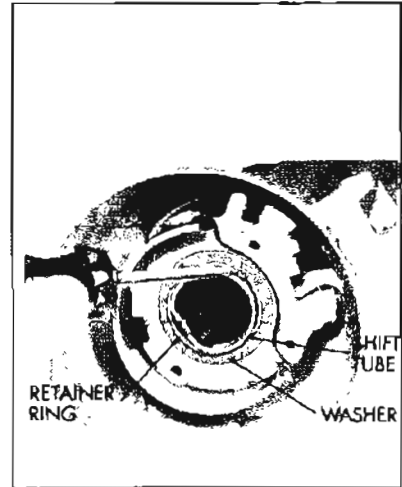

Figure 8-86—Removing Shift Tube Retainer Ring
3. Remove the shift tube retainer ring and washer from the top of shift tube. See Figure 8-86.